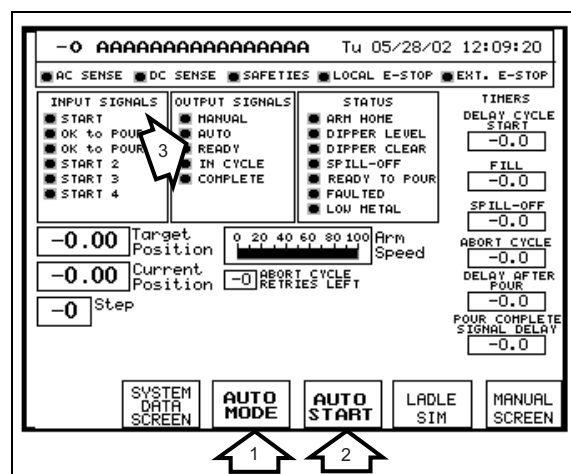

Figure 8-11: Monitor Screen
15. On the Monitor Screen, press the **AUTO MODE** key (#1 on Figure 8-11). The AUTO push-button lights and the HMI Screen indicates that the unit is in AUTO mode (#3).